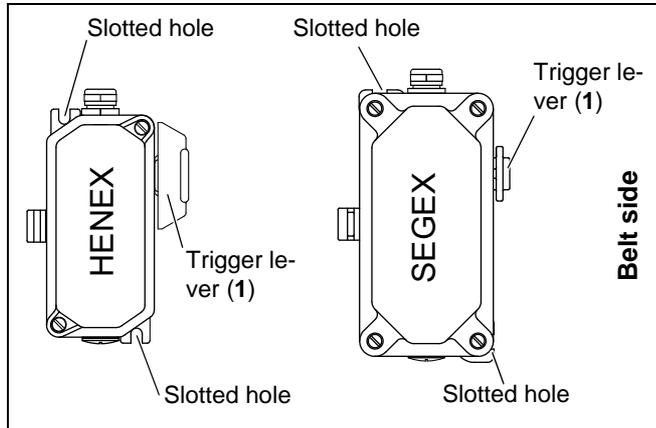

Fig. 5-3: Mounting the pull-rope emergency stop switch
2. Secure the pull-rope emergency stop switch *centered* between the attachment points on the conveyor structure (*Mounting dimensions see Section 4.4, page 15*). In doing so, the Trigger lever (1) must point towards the belt. Attach the pull-rope emergency stop switch by screwing two screws through the slotted holes (*see fig. 5-3*).